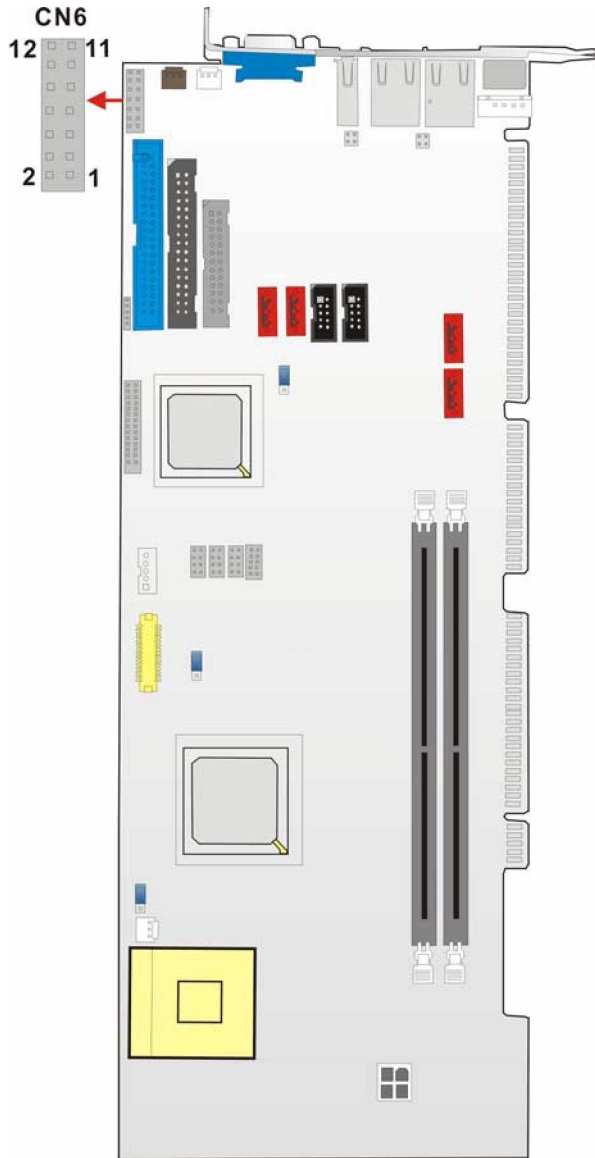

Figure 3-9: System Panel Connector Location
- CN Location:** See Figure 3-9